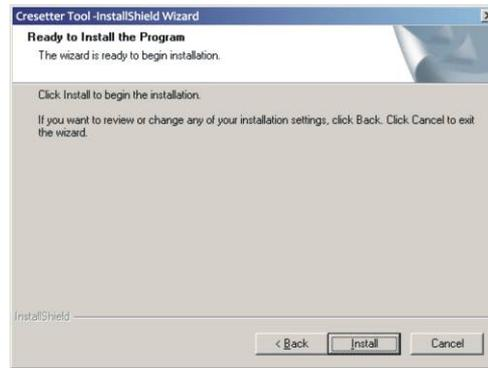

Figure 5-5
4. Click "Install", as shown in Figure 5-5: